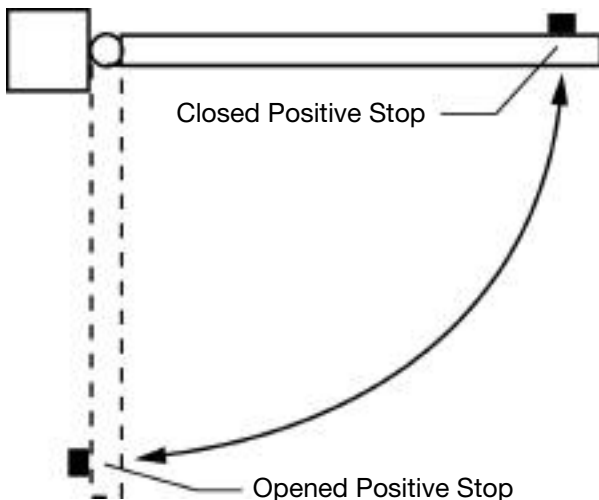

Figure 2. Provide positive stops for the gate leaf
3. Provide positive stops for the gate leaves in the opened and closed positions (see Figure 2).